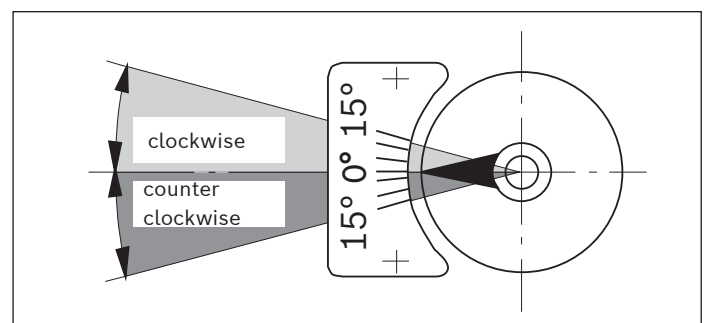

Fig. 6: Swiveling indicator
* cf. swivel angle indicator see Fig. 6